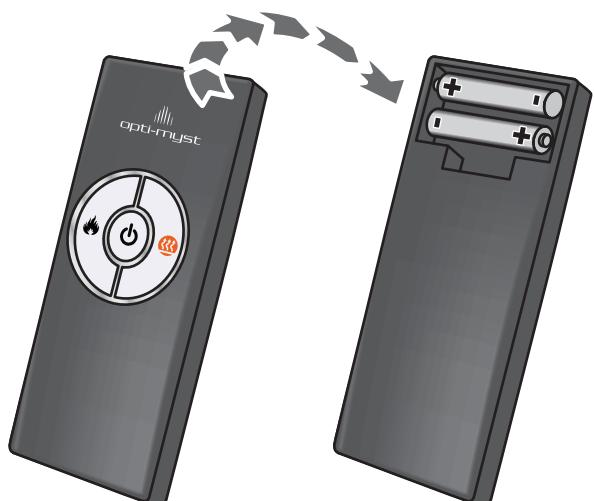

Fig.7
On the control panel, Switch A (see Fig.2) must be in the 'ON' (1) position in order for the remote control to operate. There are 3 buttons on the remote control. (See Fig.7)